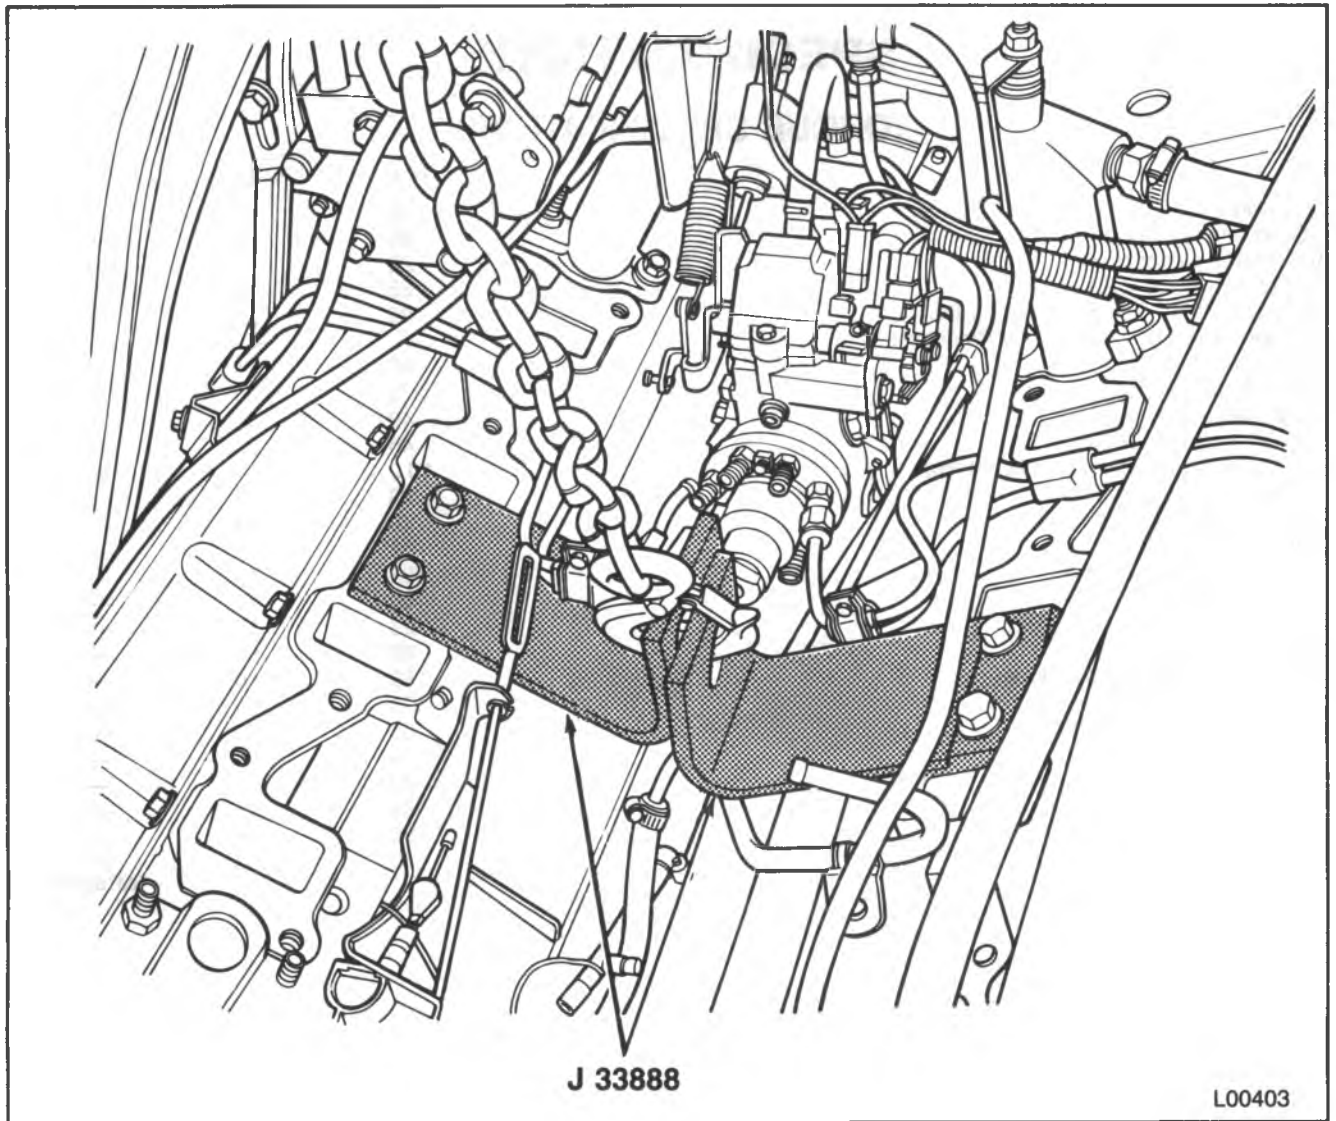

Figure 41 — Engine Lifting Fixture — G-Models
G-MODELS (Figure 41)
- Attach J-33888 to the center intake manifold bolt holes (figure 41). The two pieces of the tool should extend down into the "valley" between the cylinders.